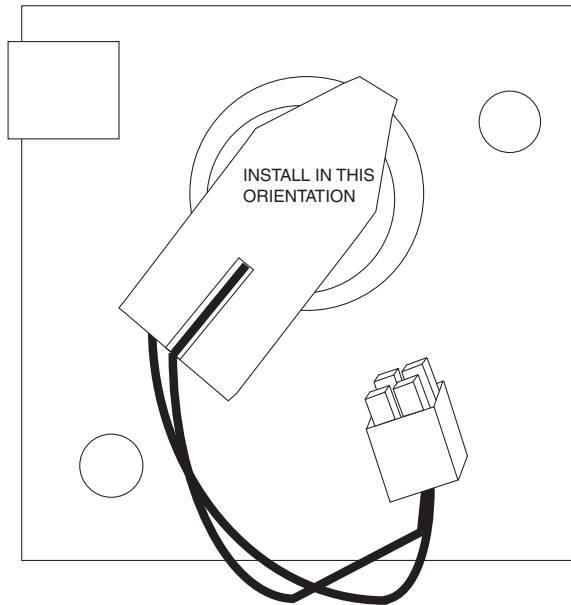

Fig. 162 — Compressor Motor Sensor Harness Installation
1. A new S1-S2 thermistor wiring harness is shipped with the CoreSense kit and must be used. The wiring harness connector block should be fully inserted on the three pins in the orientation shown in Fig. 162 for proper operation.